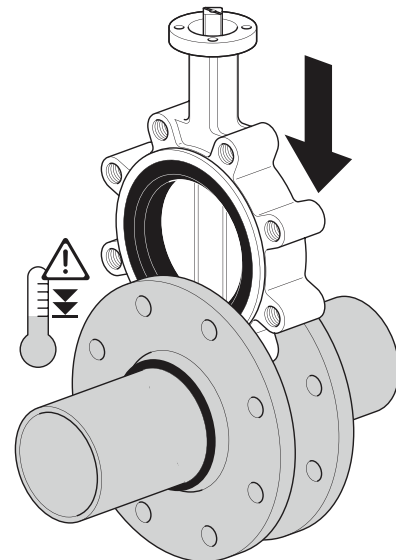

Fig. 27.
- Let the piping components cool completely before re-inserting the valve body. (Fig. 27)